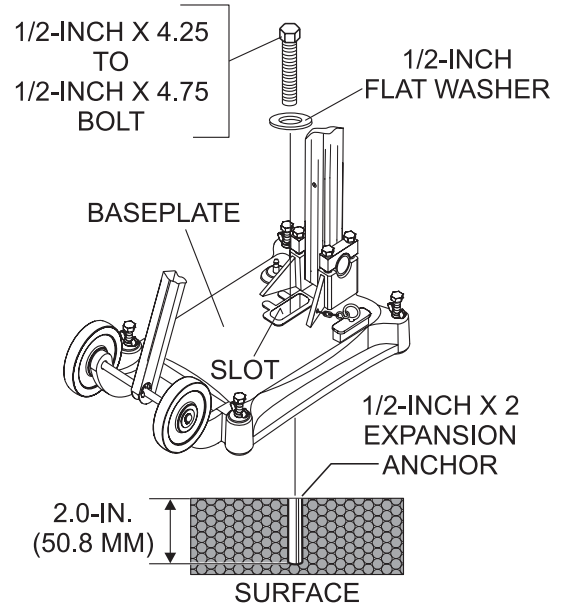

**Figure 14. Baseplate Drilling Alignment**
- Using a masonry bit, drill a hole approximately 1/2-inch in diameter. When drilling the hole make sure it is approximately 200 mm away from center. See Figure 14. Make the depth of the hole so that the desired anchor is flush or just beneath the surface